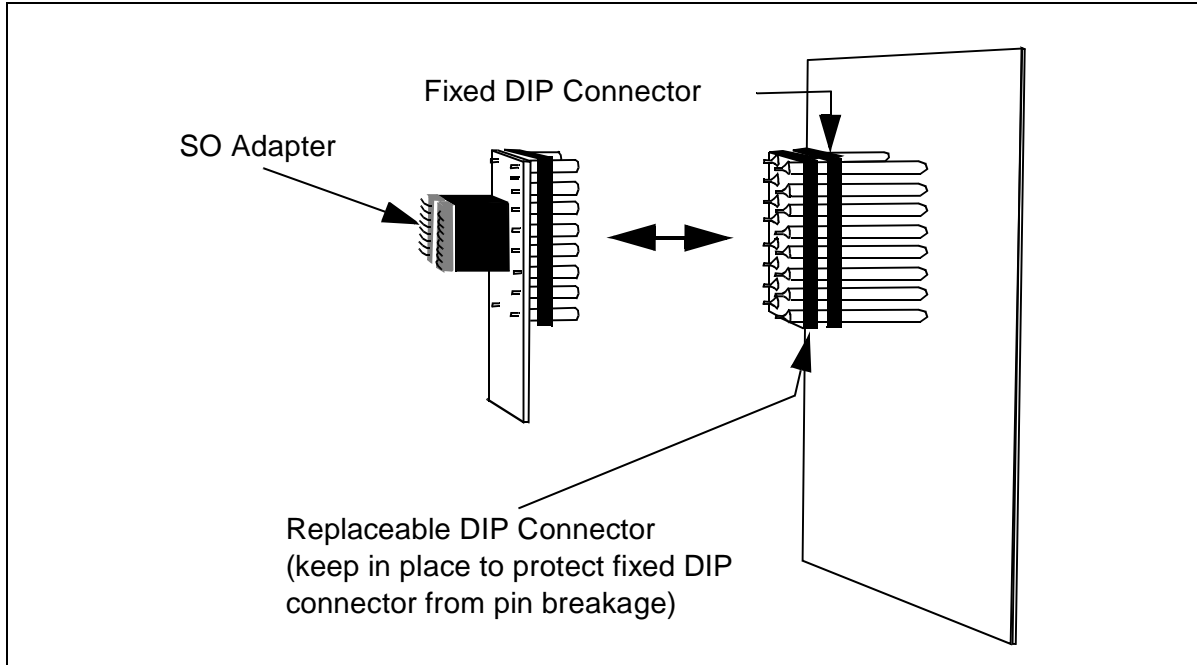

Figure 3: DIP Probe Connectors with SO Adapter
Note: *If the probe boards are already assembled with SO adapters, refer to Figure 3 on page 12 for how to use the DIP connectors, if required.*
- 1 Select one of the emulator probes supplied in the package and mount the footprint adapter for SO devices if necessary (refer to *Figure 3*). *Table 1*